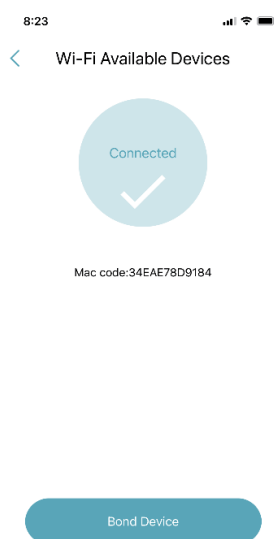

Fig. 10: Device Bonded
4. Once your device has been recognised (Fig. 10) you will then need to link your device using the barcode (Fig. 11 – 12). You can either use the camera to scan the barcode or enter it manually, the correct barcode will start with a WF.